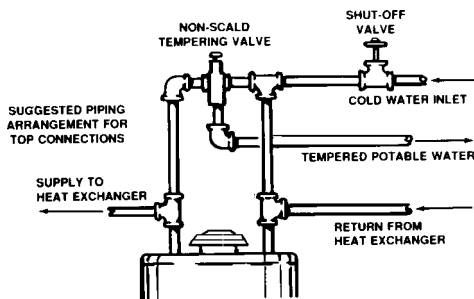

FIGURE 2
Refer to figure 1 for typical installation. A suitable pipe thread sealant must be used to prevent leakage. For water heating (potable) and space heating, see figure 2.
4. When the system requires water for space heating at temperatures higher than required for domestic water purposes, a tempering valve must be installed. Please refer to Fig. 2 for suggested piping arrangement.
Valves for reducing point of use temperature by mixing cold and hot water are available see Figure 2. Also available are inexpensive devices that attach to faucets to limit hot water temperatures. Contact a licensed plumber or the local plumbing authority.